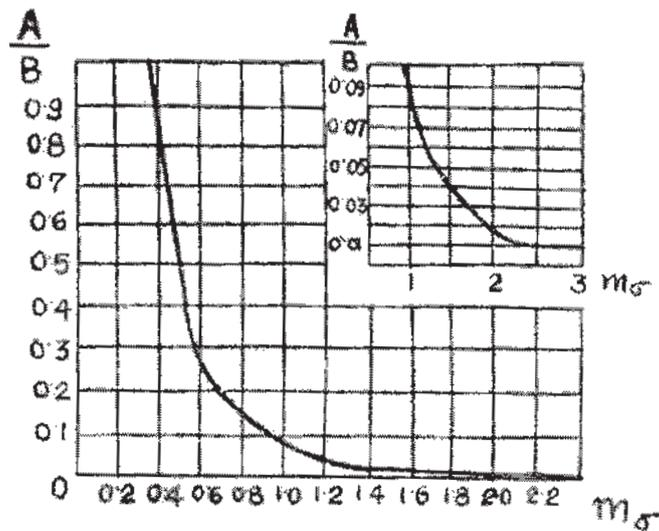

Fig. 1
- (take $\alpha_k = \beta_k = 45^\circ$ & refer Fig. 1 for required data)